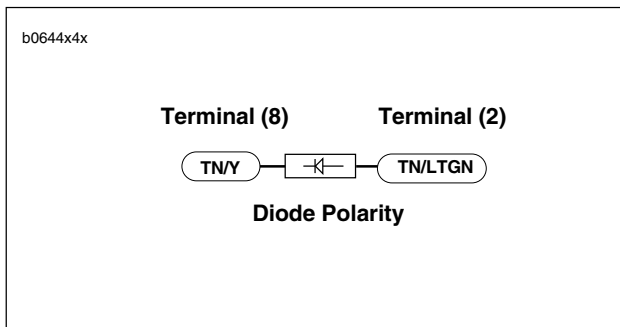

Figure 7-11. Diode Polarity
2. Check diode polarity as shown in Figure 7-11.